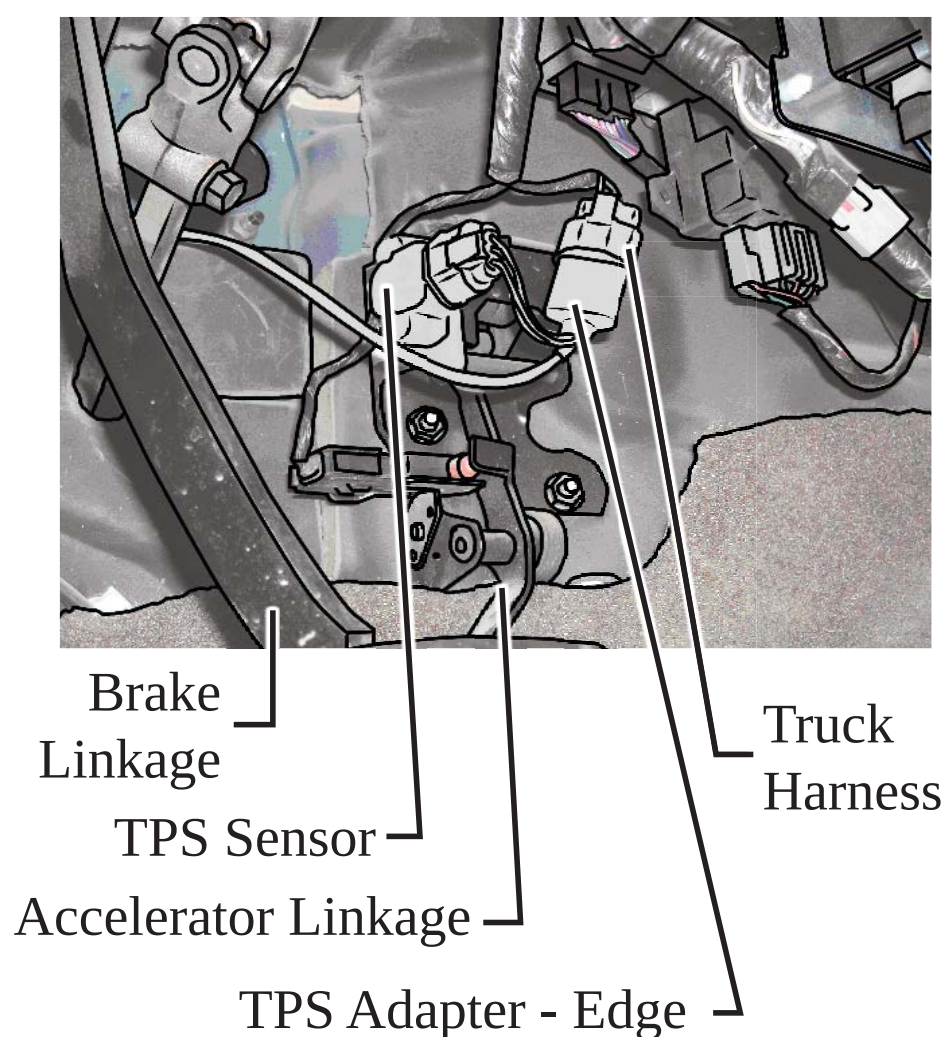

FIGURE 11 - 1999 to 2000
2. Locate the truck’s Throttle Position Sensor (TPS) according to Figures 11 and 12.
(NOTE: The views in Figures 11 and 12 are showing underneath the dash console near the brake and accelerator pedals.)